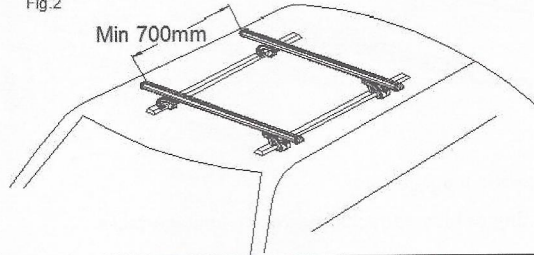

Fig.3
- . Make sure that the luggage racks do not project from the sides of the vehicle when they are assembled (see fig.3)